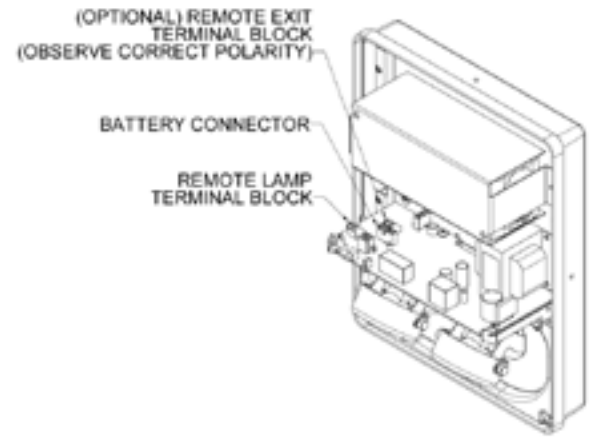

Figure 1
WALL MOUNTING (Fig. 1): Remove SHIELD and STENCIL ASSEMBLY. Remove ELECTRICAL CHASSIS by disengaging tabs in upper corners. Remove REFLECTOR (if provided). Locate appropriate REAR PANEL drillpoints and drill (4) 5/16" dia. mounting holes and (1) hole of suitable size for supply wire entry. Place HOUSING over an installed electrical junction box (drill points provided for temporary j-box attachment prior to permanent mounting). Locate and drill 4 pilot holes in mounting surface using REAR PANEL as a template. For wet location installation, attach self-adhesive pad GASKET to REAR PANEL. Using 1/4-20 fasteners and anchors appropriate for the mounting surface (not supplied), attach HOUSING to structure.
CANOPY MOUNTING (Figs. 1, 2, 4): Remove front SHIELD and STENCIL ASSEMBLY. Remove ELECTRICAL CHASSIS by disengaging tabs in upper corners. Remove REFLECTOR (if provided). Locate appropriate HOUSING drill points and drill (2) 5/16" dia. holes for MOUNTING CANOPY attachment and (1) hole of suitable size for supply wire entry. Place MOUNTING PLATE over an installed electrical junction box (slotted holes provided for temporary j-box attachment prior to permanent mounting). Locate and drill 4 pilot holes in mounting surface using MOUNTING PLATE as a template. For wet location installation, attach self-adhesive pad GASKET to MOUNTING PLATE. Using 1/4-20 fasteners and anchors appropriate for the mounting surface (not supplied), attach MOUNTING PLATE to structure. Connect supply ground to GROUND WIRE provided. For wet location installation, attach selfadhesive pad GASKET to CANOPY COVER. Using HARDWARE provided, attach CANOPY COVER and HOUSING to CANOPY MOUNTING PLATE.
ALL MOUNTING TYPES (Fig. 1, 3, 4) Configure DIRECTIONAL ARROWS as needed. To remove DIRECTIONAL ARROW COVER, use 7/16" nut driver (not supplied) to loosen RETAINER NUT approx. one complete turn and push in cover from outside. Tighten RETAINER NUT to secure COLOR FILTER PANEL and aluminum LIGHT MASK (if provided). Install ELECTRICAL CHASSIS. Install REFLECTOR (if provided), routing supply wires thru center hole (if wall mounted). Route supply wires around ELECTRICAL CHASSIS and connect to appropriate push-in connectors. Connector lead color coding: White= Neutral, Black= 120V, Orange= 277V, Blue= 347V. Install front STENCIL ASSEMBLY and SHIELD to HOUSING using Posigrip fasteners (included) and 9500 screwdriver (ordered separately).